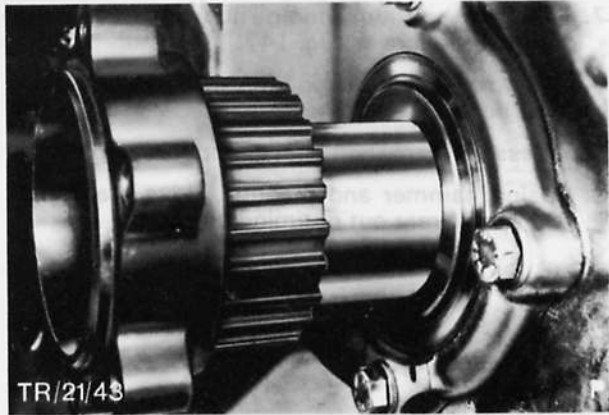

Fig. 150. Fit crankshaft hub
25. Slide toothed belt thrust washer into position and fit crankshaft hub, Fig. 150, applying sealer to bolt head inside.